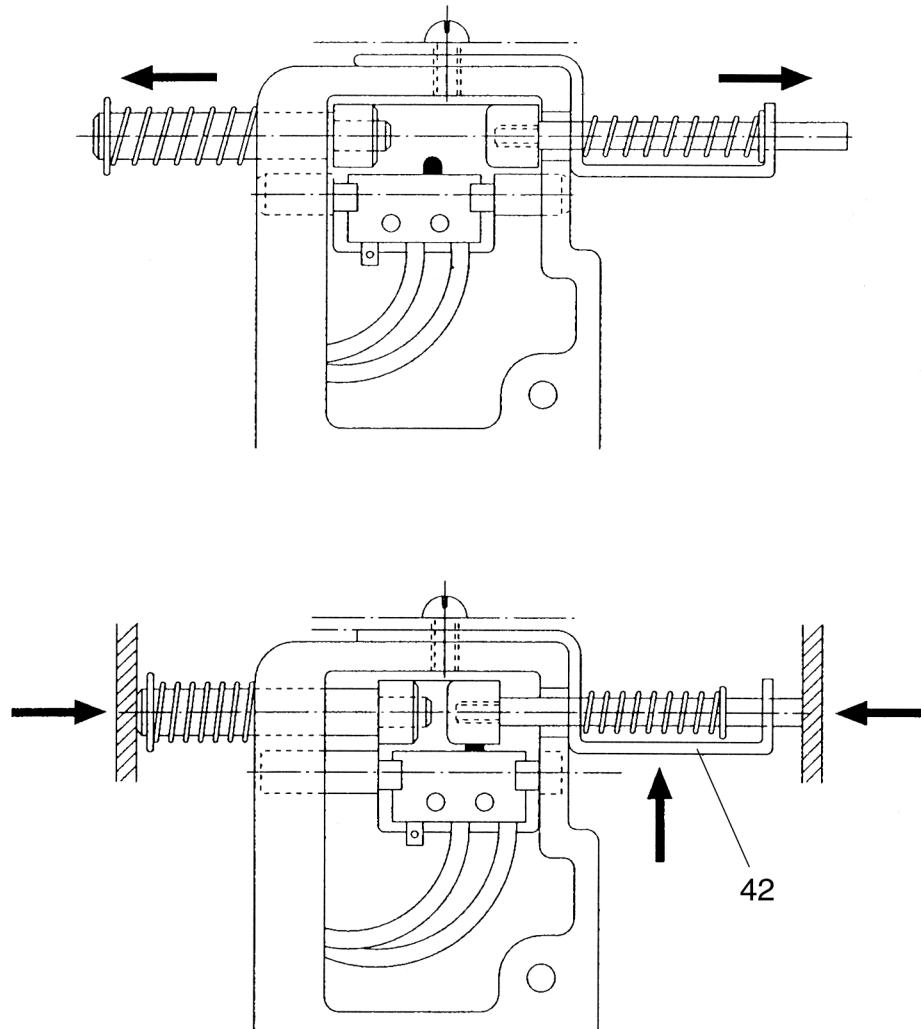

Fig. 69
- If necessary, the contact holder 42 can be pushed upward slightly until it functions perfectly (fig. 69).